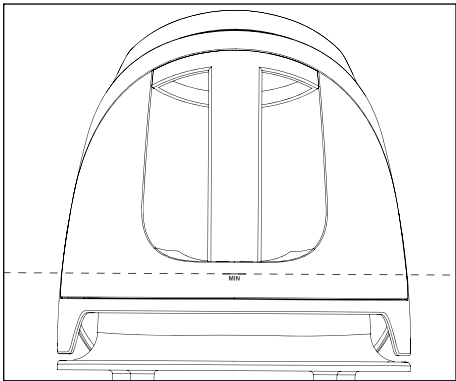

Fig. 1
- Fill the water tank ❶ only with tap water or distilled water. Otherwise, you will damage the appliance.
- As soon as the fill level of the water tank ❶ falls below the **MIN** mark (see Fig. 1), no more water is pumped into the steam chamber and the steam output stops.